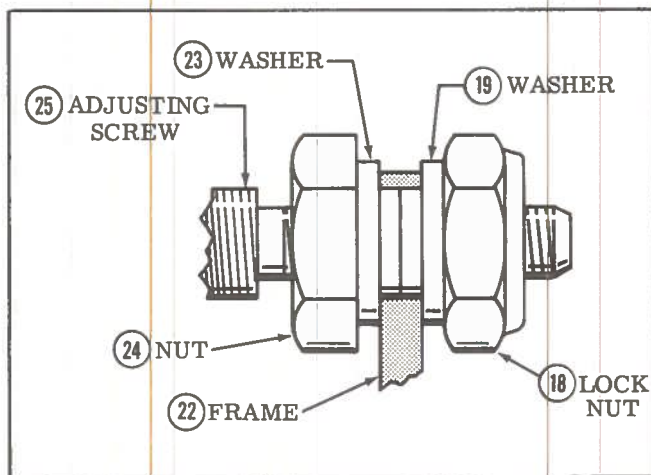

Figure 2. Location of Adjustment Screw Nuts and Washers
1. Assemble parts (26), (22), (21) and (20).
2. Install adjusting screw (25) thru the adapter (26), attach standard nut (24) and washer (23) and turn the nut on until it bottoms against the shoulder of the adjusting screw. See Figures 2 and 3.
3. Turn the adjusting screw (25) thru the hole on the frame (22) far enough to attach the other washer (19) and lock nut (18).
4. Turn one of the nuts until it contacts the frame, then tighten the other nut. See Figure 2.